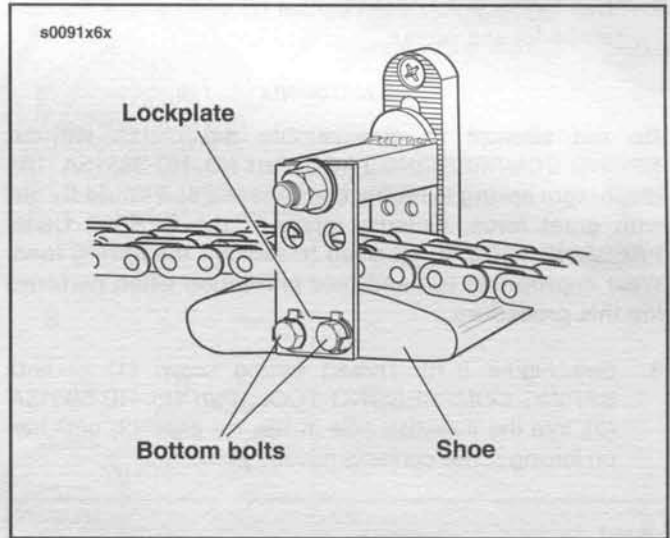

Figure 6-9. Adjusting Shoe
- See Figure 6-9. Remove the two bottom bolts, lockplate, and washers. Remove the shoe. When installing adjusting shoe, bend one lockplate tab over each screw head after tightening. The lockplate is installed outside of the two washers.